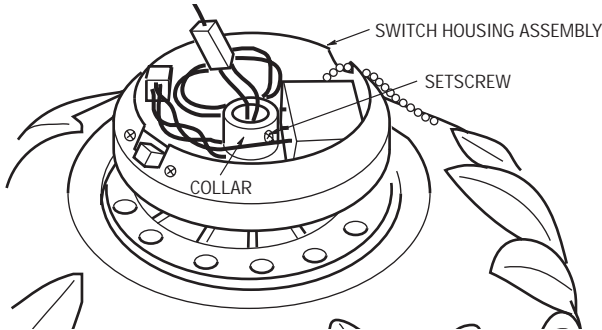
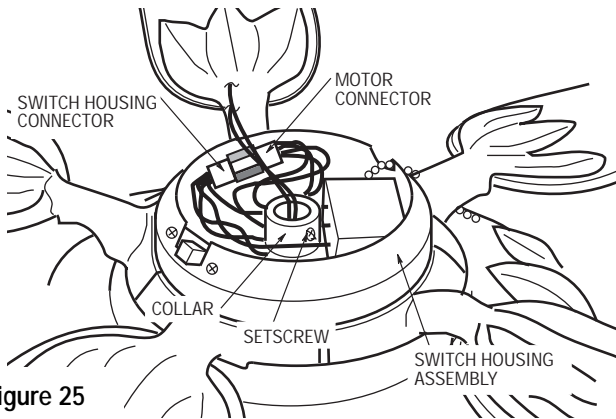

Figure 24
Figure 25
- 19. Reinstall the switch housing assembly by passing the wires from the motor shaft through the collar, screw the assembly onto the motor shaft (Figure 24). Tighten the setscrew using the 5/32" hex wrench (supplied). Engage the connector from the switch housing to the motor connector. The two connectors are keyed and must be mated correctly before they can be engaged (Figure 25).